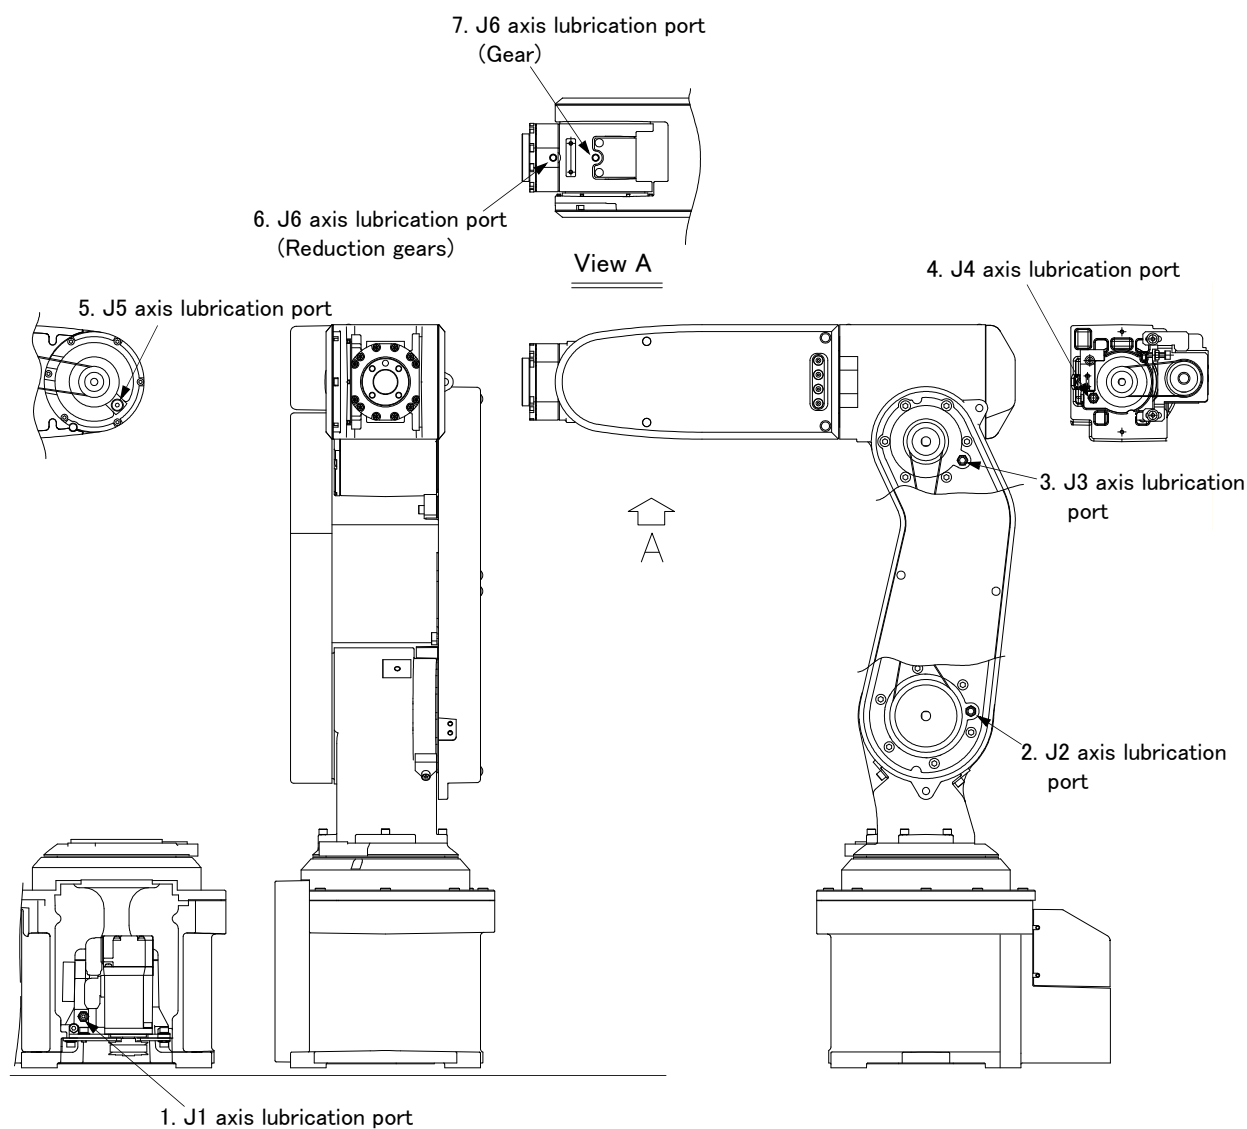

Fig.5-27 : Lubrication positions (RV-2FR series)
The grease nipple position is shown in Fig. 5-27. The lubrication specifications for each place are shown in Table 5-10. Refer to the Page 102, "5.3.2 Installing/removing the cover" for the method of removing and installing the cover.
- The numbers in Table 5-10 correspond to the supply positions in Fig. 5-27.
- 1) Set the robot to the posture shown in Fig. 5-27.